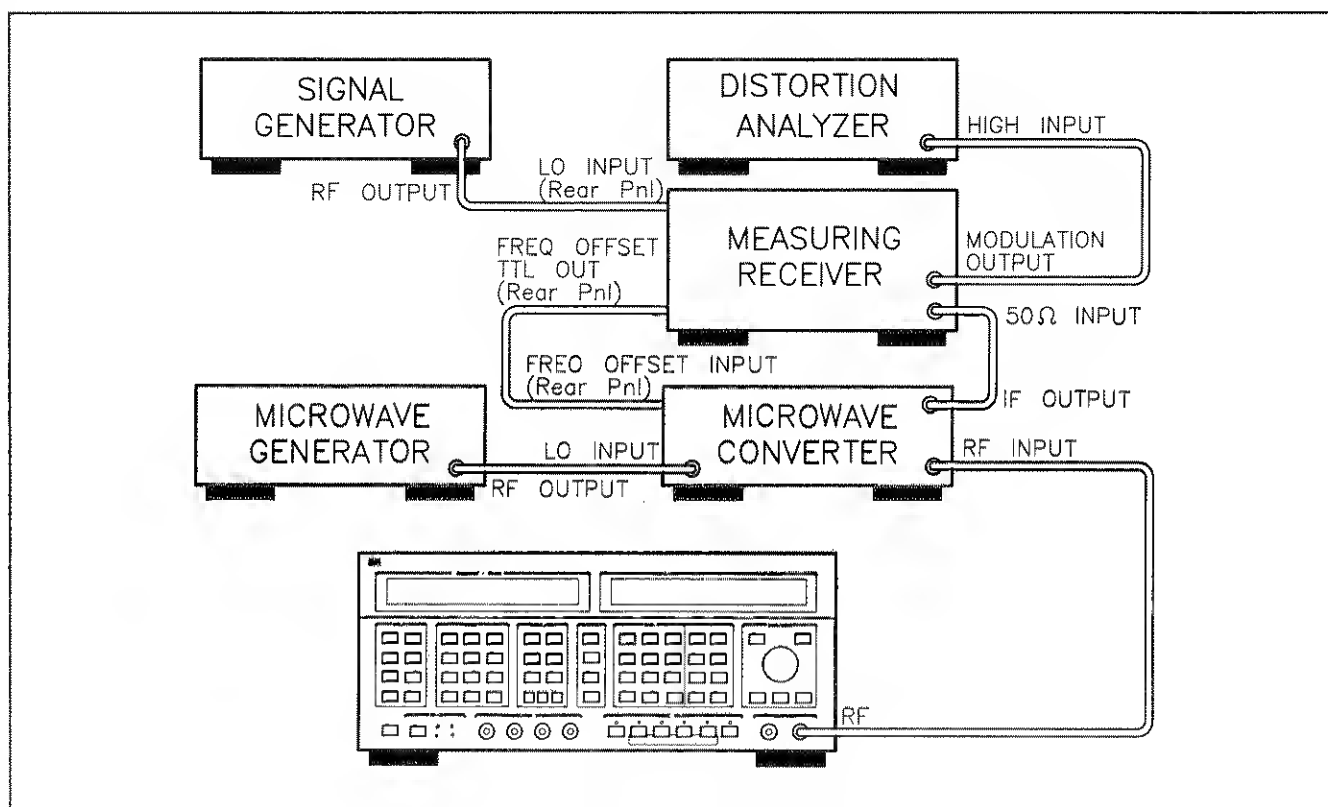

Figure 3-4. FM (Low Deviation and Rates) Test Setup
1. Connect the equipment as shown in figure 3-4 making note of the following details.